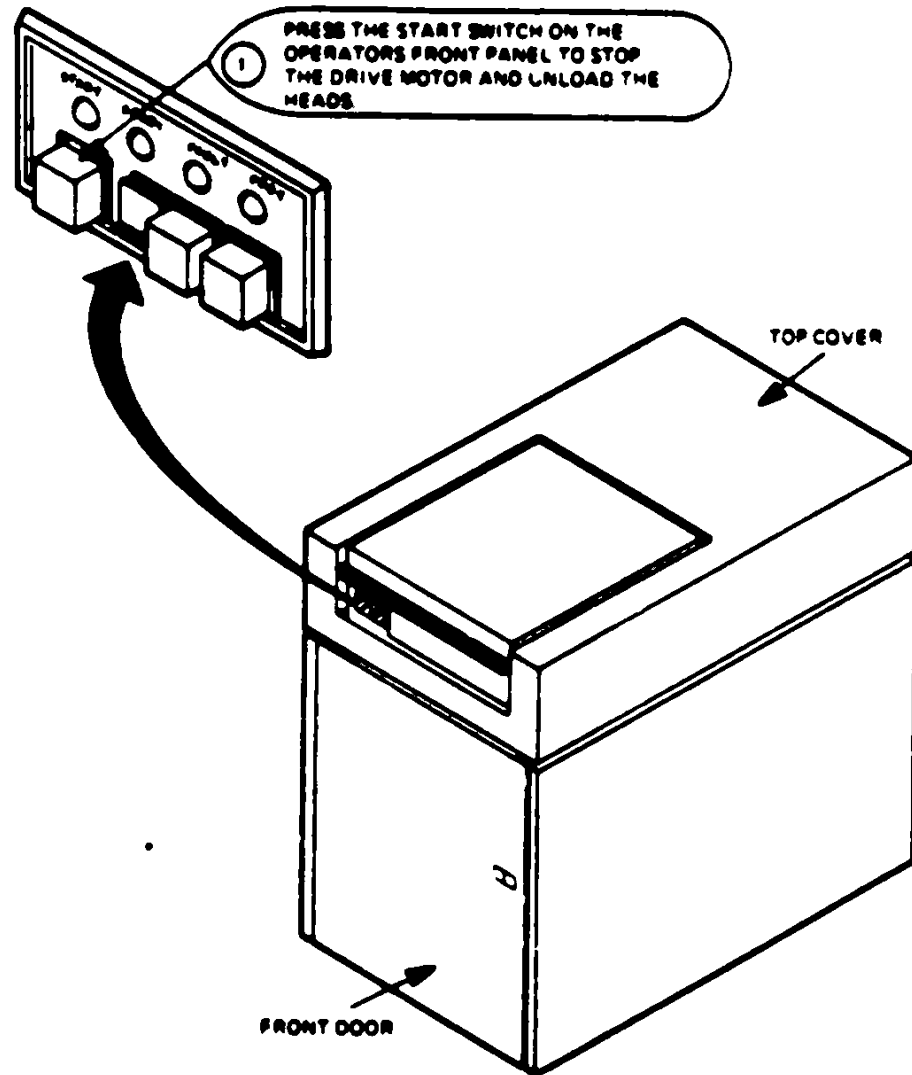

FIGURE 4 RM05 OPERATORS PANEL
1. Press the START switch on the operators front panel to stop the drive motor and unload the heads. (See Figure 4)